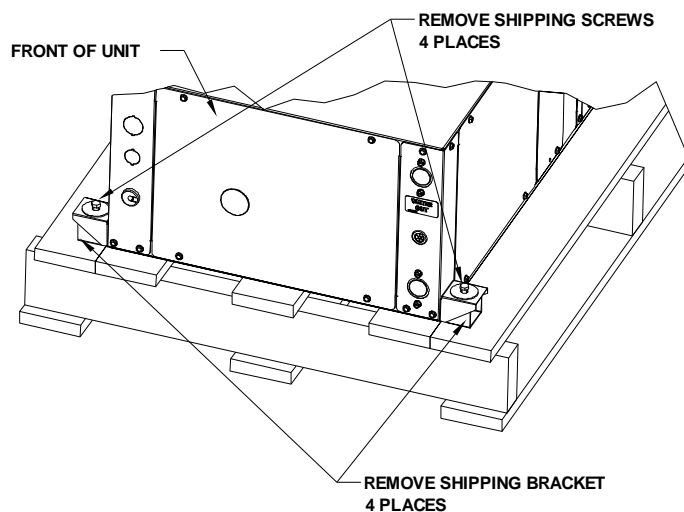
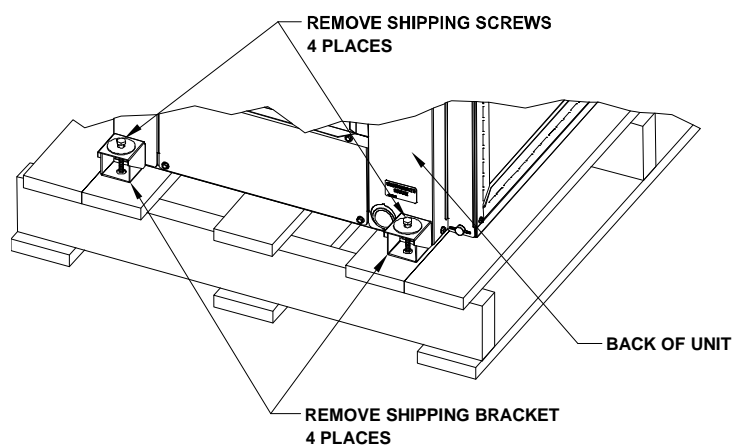

FIGURE 3 – Standard Packaging with Brackets – Front View
FIGURE 4 – Standard Packaging with Brackets – Back View
- 9) Ensure that the shipping screws are removed from the unit. Refer to FIGURE 3 – Standard Packaging with Brackets – Front View & FIGURE 4 – Standard Packaging with Brackets – Back View for more information.